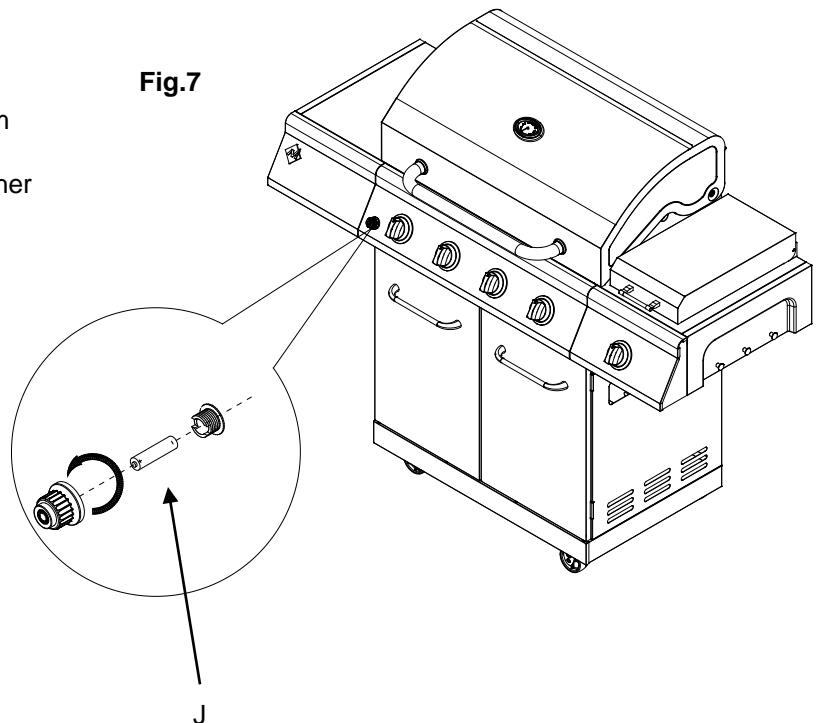

Fig.7
b) Install battery (J) into ignition box with positive terminal facing panel.
c) Replace the ignition battery cap after the battery has been install. See Fig.7